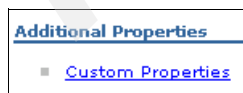

Figure A-10 Navigating to Custom Properties
- Under Additional Properties, click **Custom Properties** (Figure A-10).